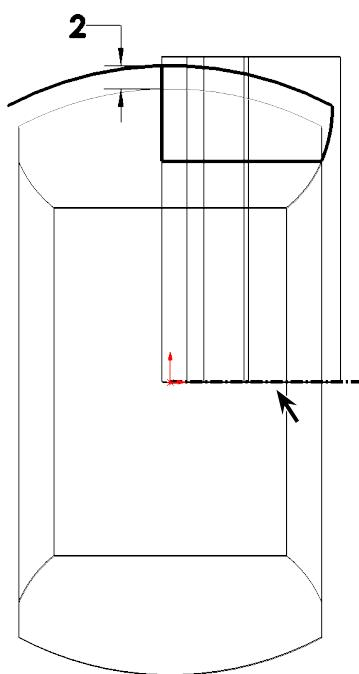

Fig. 24
Step 13. Sketch a horizontal centerline from Origin , Fig. 24.